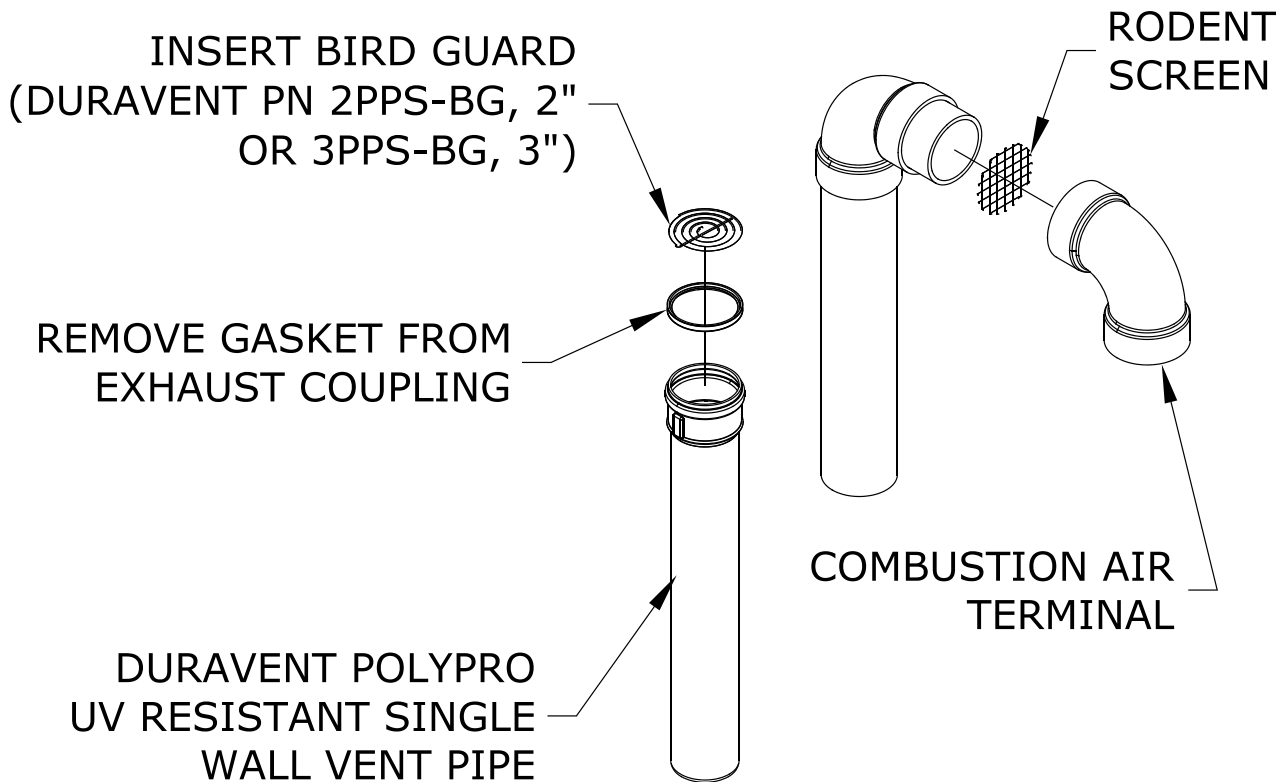

Figure 7.37: Installation of Duravent PolyPro UV Resistant Single Wall Vertical Terminal
- a. See Figure 7.37 for the proper orientation of twin pipe vertical terminals.
- c. A 180° bend (or two 90° elbows) are installed on the top of the air intake pipe. If two 90° elbows are used, a rodent screen can be installed between them (Figure 7.37). If a 180° bend is used, install the rodent screen in the open side of the bend, using a ring made of PVC pipe. If desired, the termination fittings can be attached to the end of the intake pipes with field supplied stainless steel screws so that they can be later removed for cleaning and inspection. If this is done, drill a clearance hole in these fittings and a tap hole in the end of the intake pipes to accept these screws.